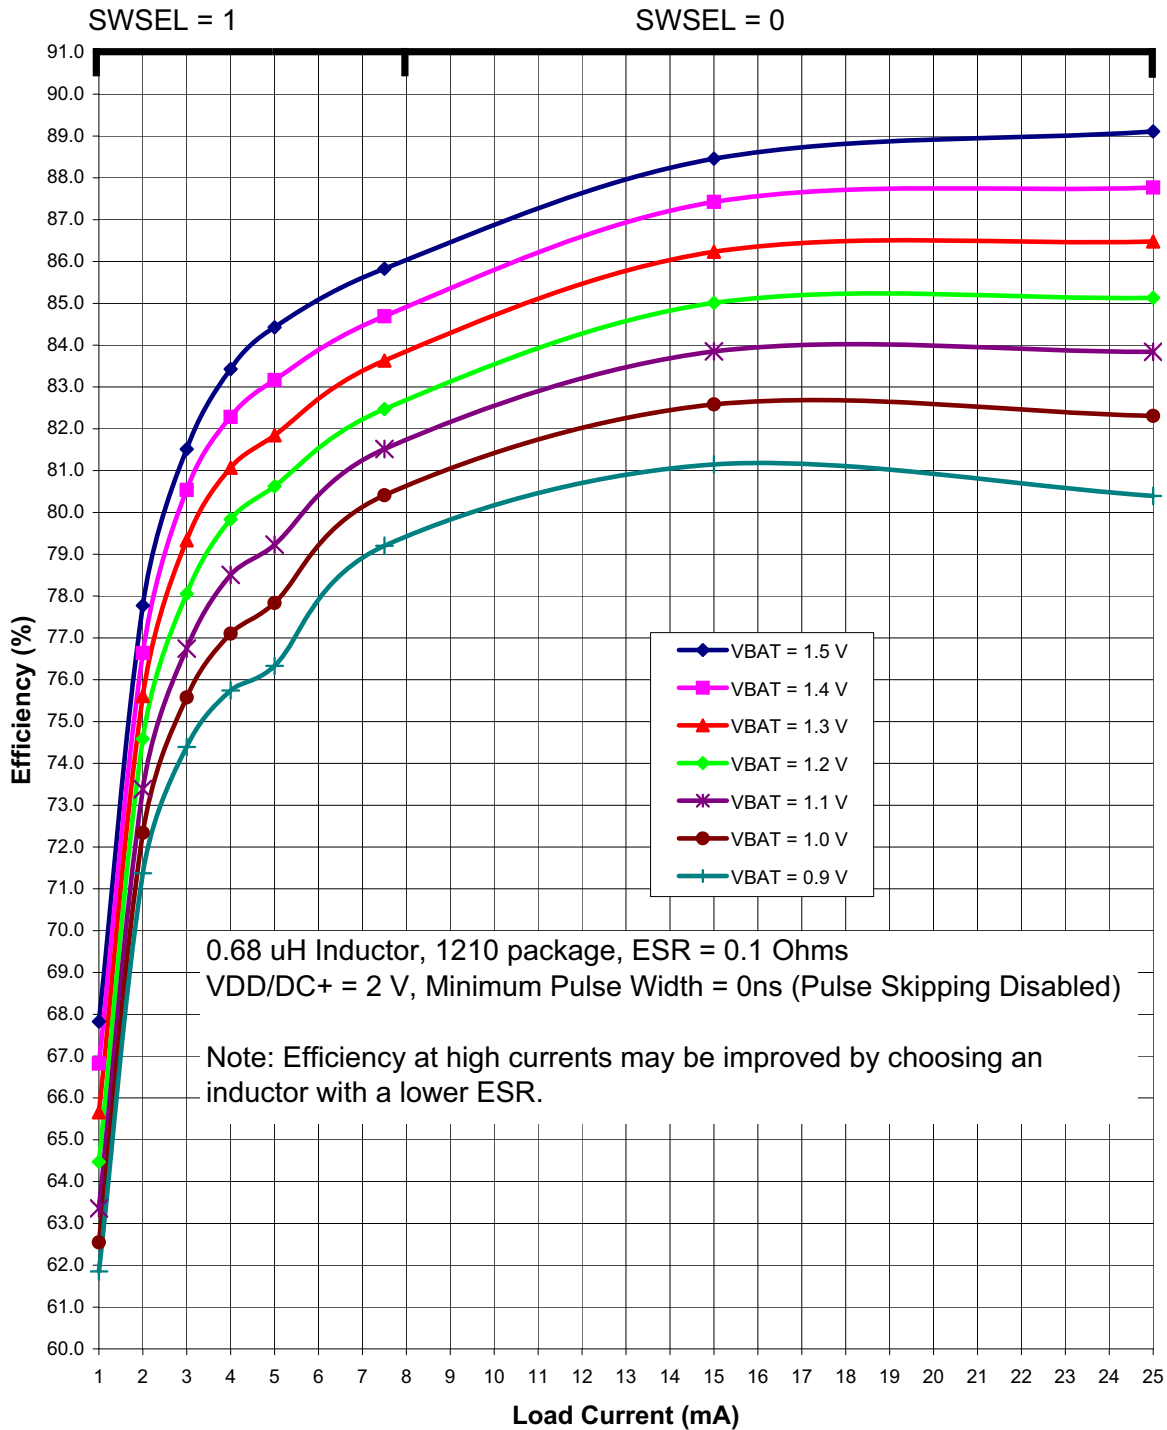
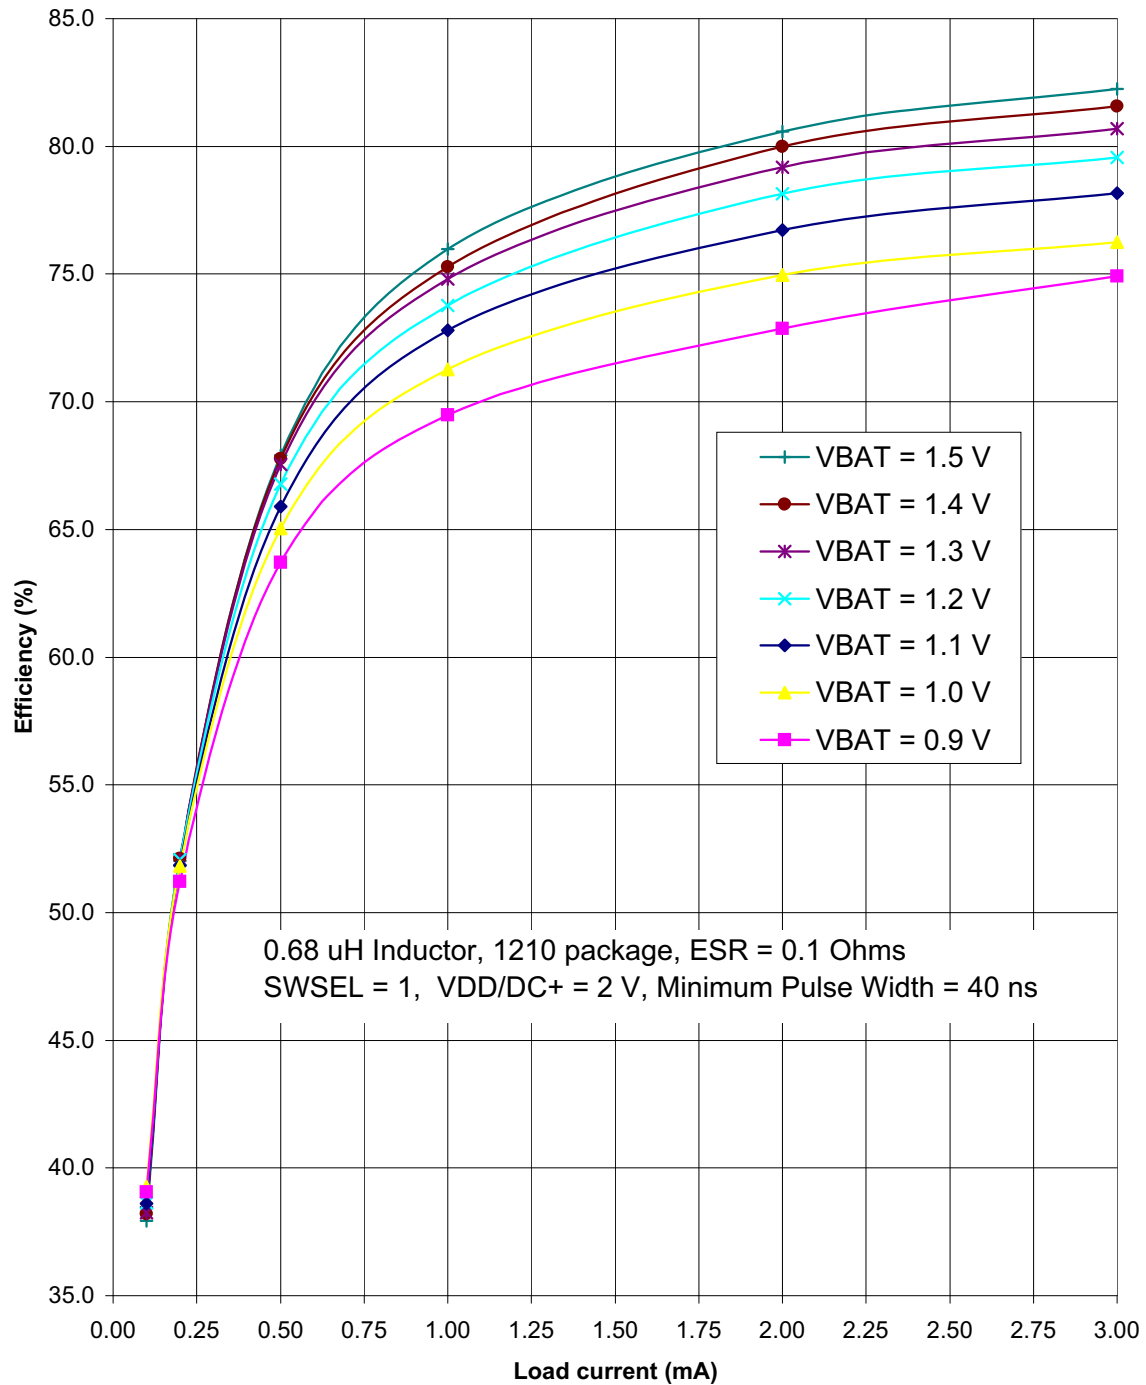

Figure 4.3. Typical DC-DC Converter Efficiency (High Current, VDD/DC+ = 2 V)
Figure 4.5. Typical DC-DC Converter Efficiency (Low Current, VDD/DC+ = 2 V)
| <ol style="list-style-type: none"> Based on device characterization data; Not production tested. SYSCLK must be at least 32 kHz to enable debugging. Digital Supply Current depends upon the particular code being executed. The values in this table are obtained with the CPU executing an "sjmp \$" loop, which is the compiled form of a while(1) loop in C. One iteration requires 3 CPU clock cycles, and the Flash memory is read on each cycle. The supply current will vary slightly based on the physical location of the sjmp instruction and the number of Flash address lines that toggle as a result. In the worst case, current can increase by up to 30% if the sjmp loop straddles a 64-byte Flash address boundary (e.g., 0x007F to 0x0080). Real-world code with larger loops and longer linear sequences will have few transitions across the 64-byte address boundaries. Includes oscillator and regulator supply current. ID_{DD} can be estimated for frequencies ≤14 MHz by simply multiplying the frequency of interest by the frequency sensitivity number for that range, then adding an offset of 90 μA. When using these numbers to estimate I_{DD} for >14 MHz, the estimate should be the current at 25 MHz minus the difference in current indicated by the frequency sensitivity number. For example: V_{DD} = 3.0 V; F = 20 MHz, I_{DD} = 4 mA – (25 MHz – 20 MHz) × 0.102 mA/MHz = 3.5 mA assuming the same oscillator setting. The supply current specifications in Table 4.2 are for two cell mode. The VBAT current in one-cell mode can be estimated using the following equation: $\text{VBAT Current (one-cell mode)} = \frac{\text{Supply Voltage} \times \text{Supply Current (two-cell mode)}}{\text{DC-DC Converter Efficiency} \times \text{VBAT Voltage}}$ <p>The VBAT Voltage is the voltage at the VBAT pin, typically 0.9 to 1.8 V. The Supply Current (two-cell mode) is the data sheet specification for supply current. The Supply Voltage is the voltage at the VDD/DC+ pin, typically 1.8 to 3.3 V (default = 1.9 V). The DC-DC Converter Efficiency can be estimated using Figure 4.3–Figure 4.5.</p> Idle ID_{DD} can be estimated by taking the current at 25 MHz minus the difference in current indicated by the frequency sensitivity number. For example: V_{DD} = 3.0 V; F = 5 MHz, Idle I_{DD} = 2.1 mA – (25 MHz – 5 MHz) × 0.079 mA/MHz = 0.52 mA. Internal LFO only available on 'F912 and 'F902 devices. Ability to disable VBAT supply monitor only available on 'F912 and 'F902 devices. | | | | | |